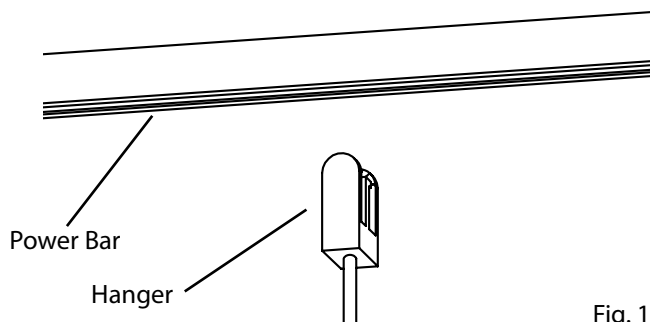

Fig. 15
1. Align **Hanger** with **Power Bar** (Fig. 15) and press down firmly on the top of the Power Bar, while pressing up on the bottom of the Hanger, until the Power Bar clicks into place. (Fig. 16)